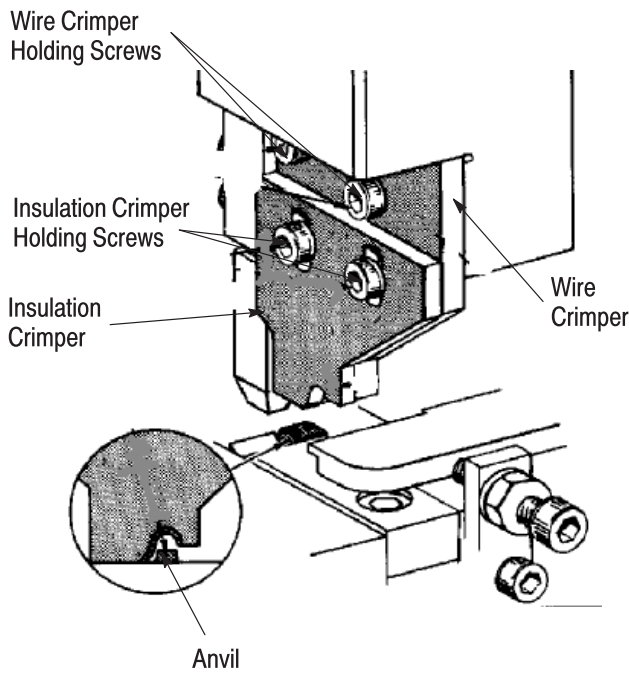

Figure 6
The anvil should protrude from the anvil insert slot and center in the arc of the wire crimper. See Figure 6. If necessary, adjust as follows:
1. Loosen the two wire crimper holding screws. See Figure 6.
1. While holding the insulation crimper at it's present position. Loosen the the two insulation crimper holding screws. See Figure 6.